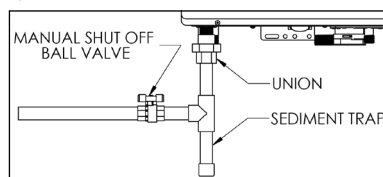

Figure 36 - Gas Line with Shut-Off and Sediment Trap Detail - Wall Model
- The National Fuel Gas Code (NFPA 54) requires that a sediment trap (drip leg) be installed in the gas line on boilers not so equipped. The drip leg must be accessible, a minimum of 3" in length, and not subject to freezing conditions. See Figures 36 and 37.
- A manual gas shut-off valve should be installed in the gas supply line close to the boiler. See Figures 36 and 37 for detail.